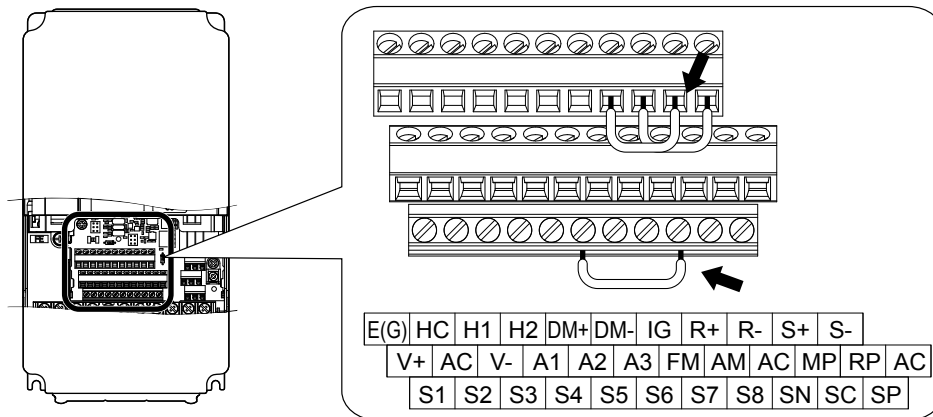

Figure C.7 Terminal Connections for Communication Self-Diagnostics
4. With the power off, wire the drive as shown in Figure C.7, connecting terminals R+ and S+, R- and S-, and S6 and SN.